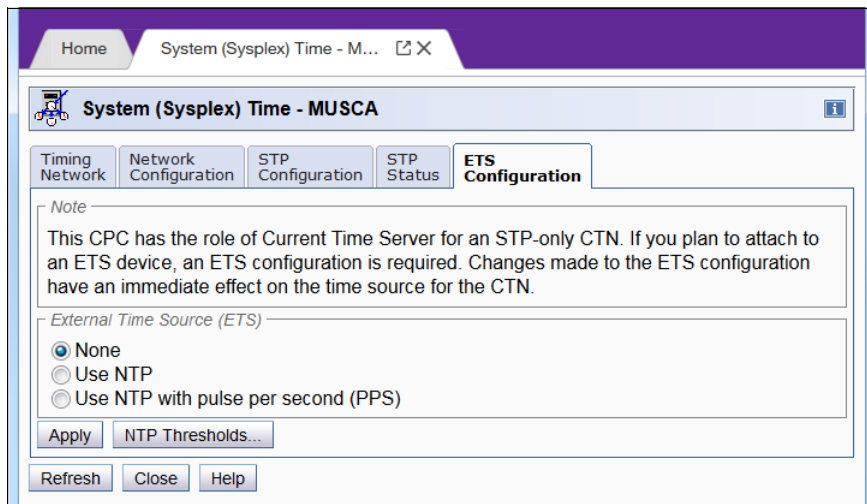

Figure 5-39 System (Sysplex) Time: ETS Configuration
10. Click the **ETS Configuration** tab to check whether any External Time Source (ETS) definitions exist (see Figure 5-39).
Figure 5-39 shows that None were selected for any ETS.